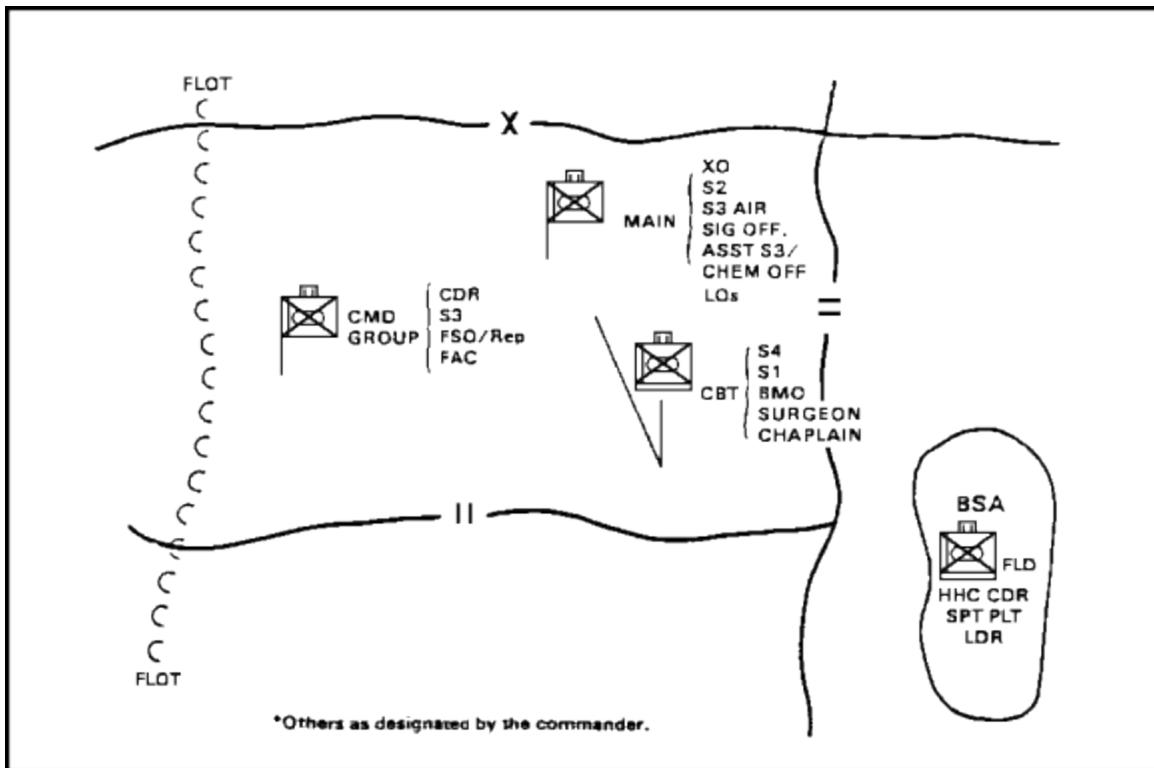

Figure 2-4. Command and control organization on the battlefield
b. Organization. The battalion commander determines the command and control organization that best supports his method of operations. He determines the succession of command, and assigns responsibilities. The command and control organization is established by task force SOP. The typical task force command and control organization is shown in Figure 2-4.